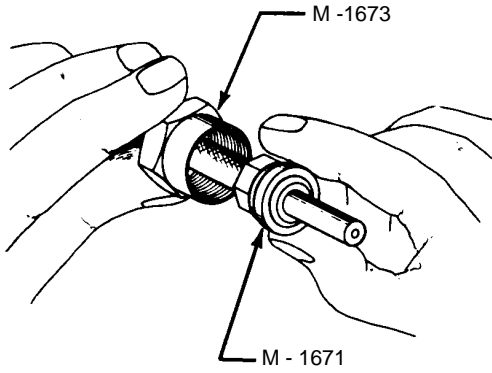

Figure 8-18 Installation of Plug Endpoint
- g. On spark plug end of wire install M-1673 Nut followed by M-1671 Female Taper Hex Ferrule. Refer to Figure 8-18.